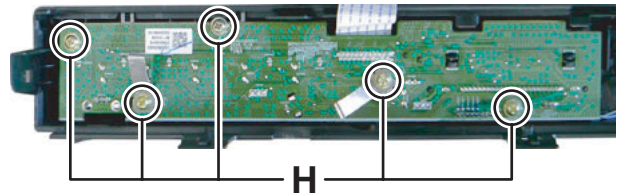

Fig.10
3.5 Removing the Timer board (See Fig.10)